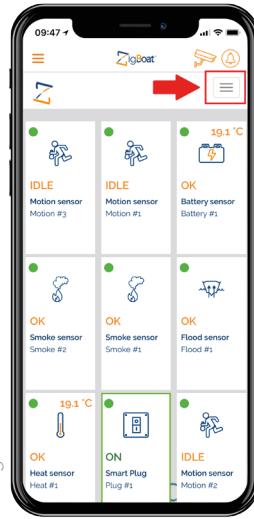

Fig. 1
- Open the ZigBoat™ App, select the Gateway in the ZB Gateways menu, wait a few seconds, then select the menu button on the top right (fig. 1) Select "Device list" (fig. 2). Add the sensor by entering the serial number which is on the sensor's label (fig. 3).